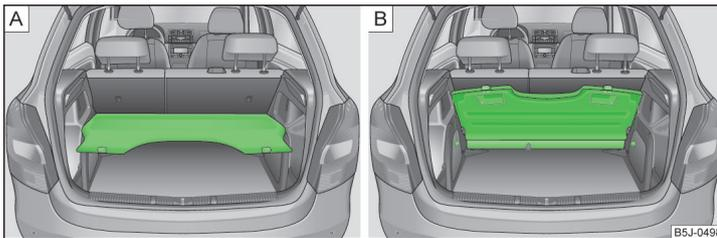

Fig. 65 The luggage compartment cover: Stowed in the lower position/ behind the rear seats
- In the lower position on the support elements » Fig. 65 - **A** » **!**
- Behind the rear seats » Fig. 65 - **B**.
In this position » Fig. 65 - **A** the luggage compartment cover is designed for small objects up to a weight of 2.5 kg.